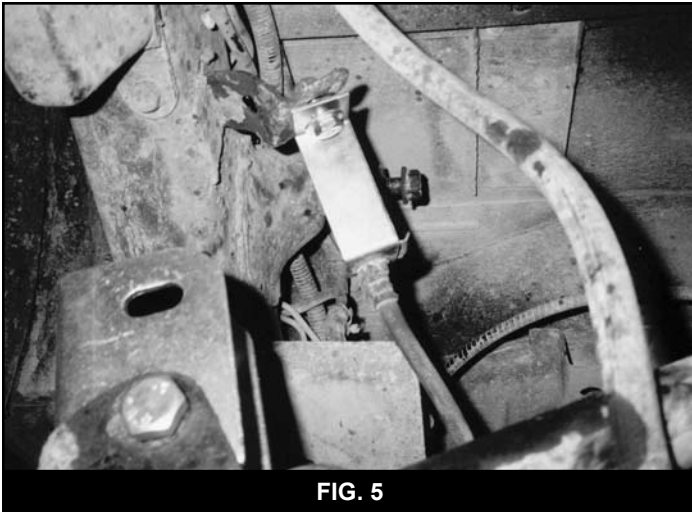

FIG. 5
18. Remove wheels and shocks. Disconnect the track bar from the axle. Remove the brake hose clip retaining the hose anchor to frame. Note: This is located on the driver's side behind the driver's side upper shock mount. Use a 3/8 x 1" bolt, flat washers and lock nut to mount the extension bracket to hanger with the bend down. Carefully acquire slack in hard line and reattach hose anchor to extension bracket using OE clip. DO NOT kink or damage line. (Fig. 5)